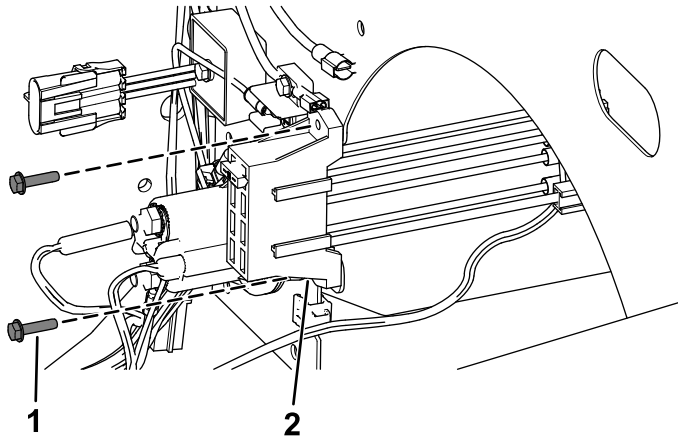

Figure 21
- **For 2019 and after machines**, secure the new fuse block using the 2 self-tapping screws as shown in Figure 21.